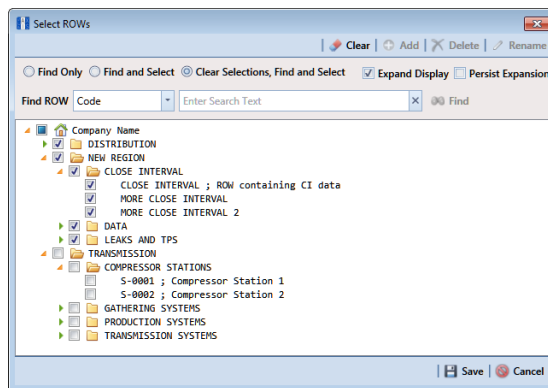

Figure 13-1. Select ROWs
- 2 Click the **Select ROWs** button  to open the *Select ROWs* window (Figure 13-1). Click the check box for each pipeline segment with facilities you want to include in the survey file. Click  **Save** to close the window.